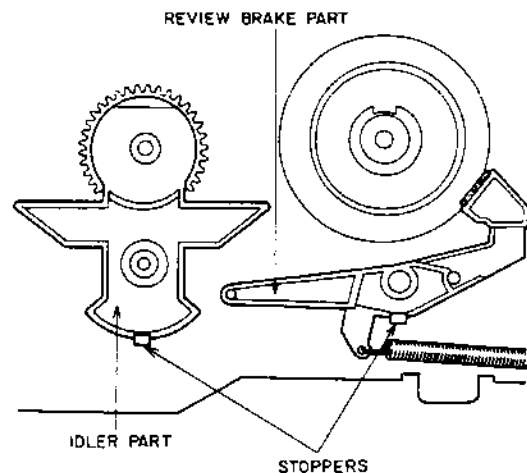

Fig. 4-9
- 2) Release the stopper of the IDLER PART as shown in Fig.4-9, then remove it.